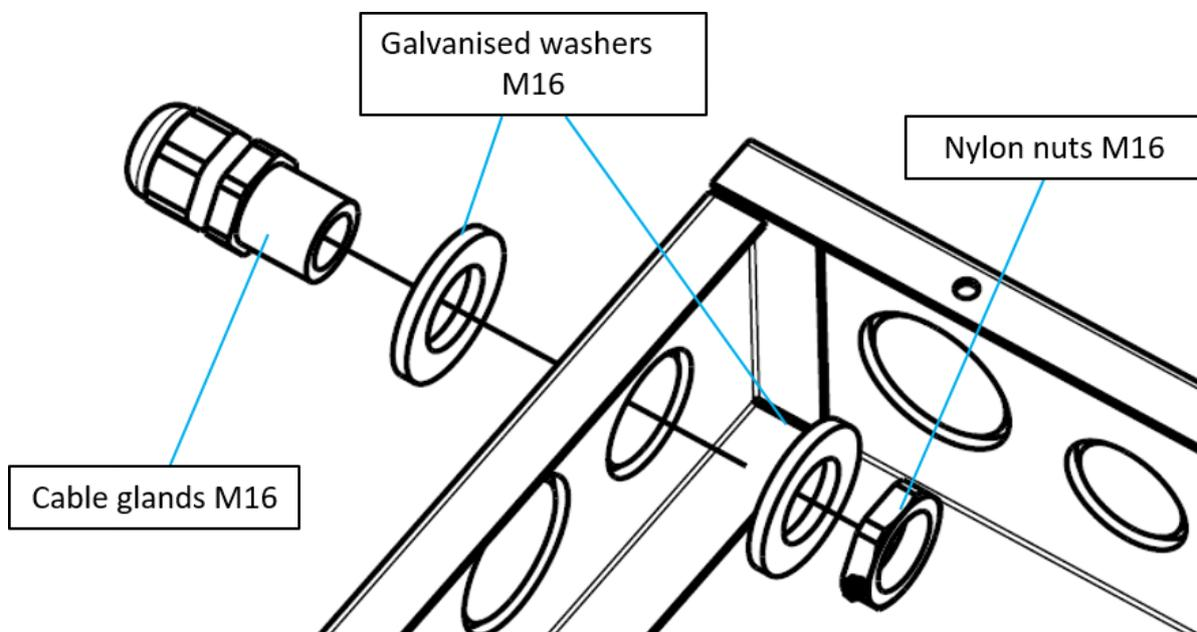

Fig. 43 *Cable gland installation scheme*
- C. Fasten the cable gland to the junction box as shown in Figure 43.